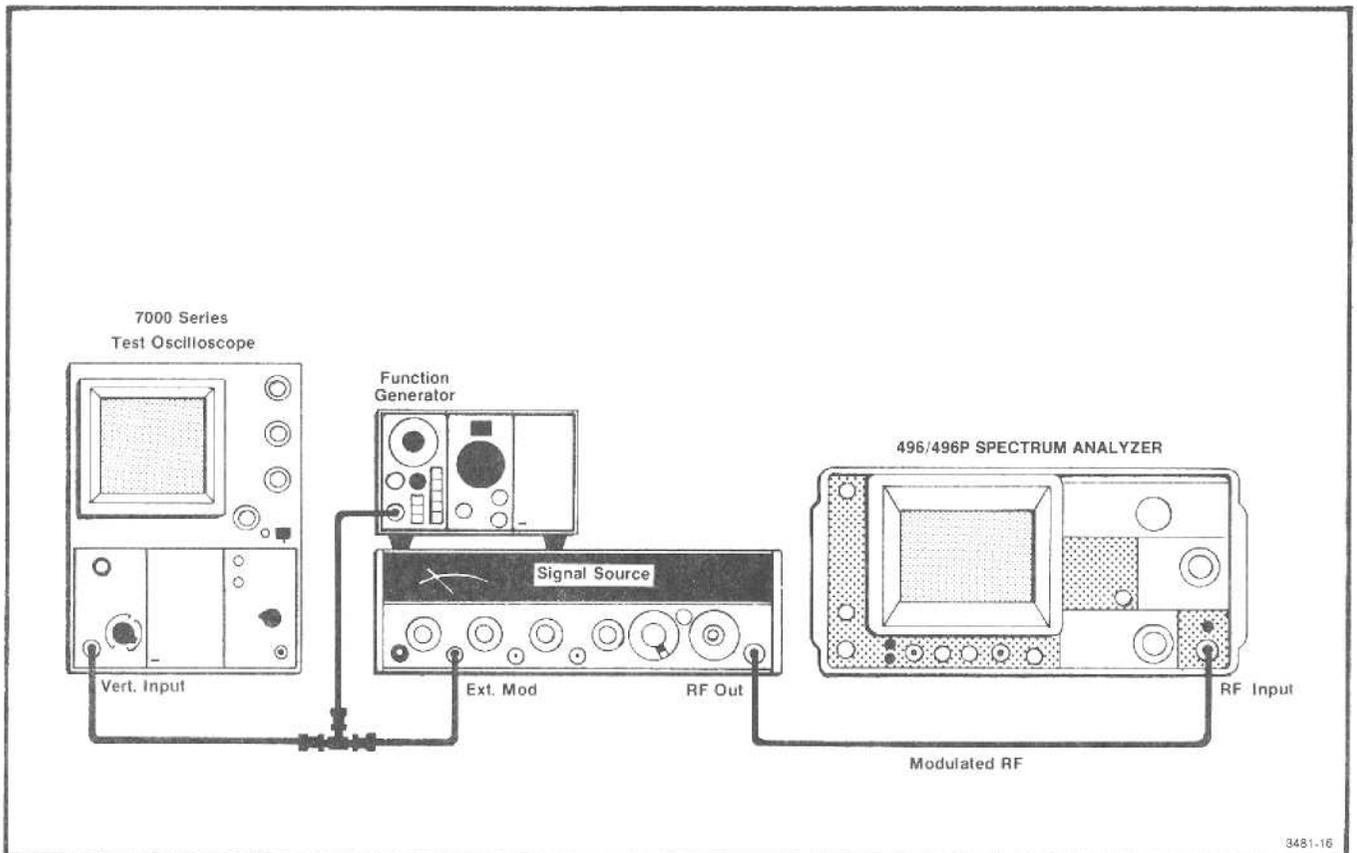

Fig. 3-18. Test equipment setup for checking triggering requirements.
a. Apply the output of a signal generator, modulated by a sine-wave generator, to the RF INPUT of the 496/496P. Monitor the output of the sine-wave generator with a test oscilloscope (see Fig. 3-18).